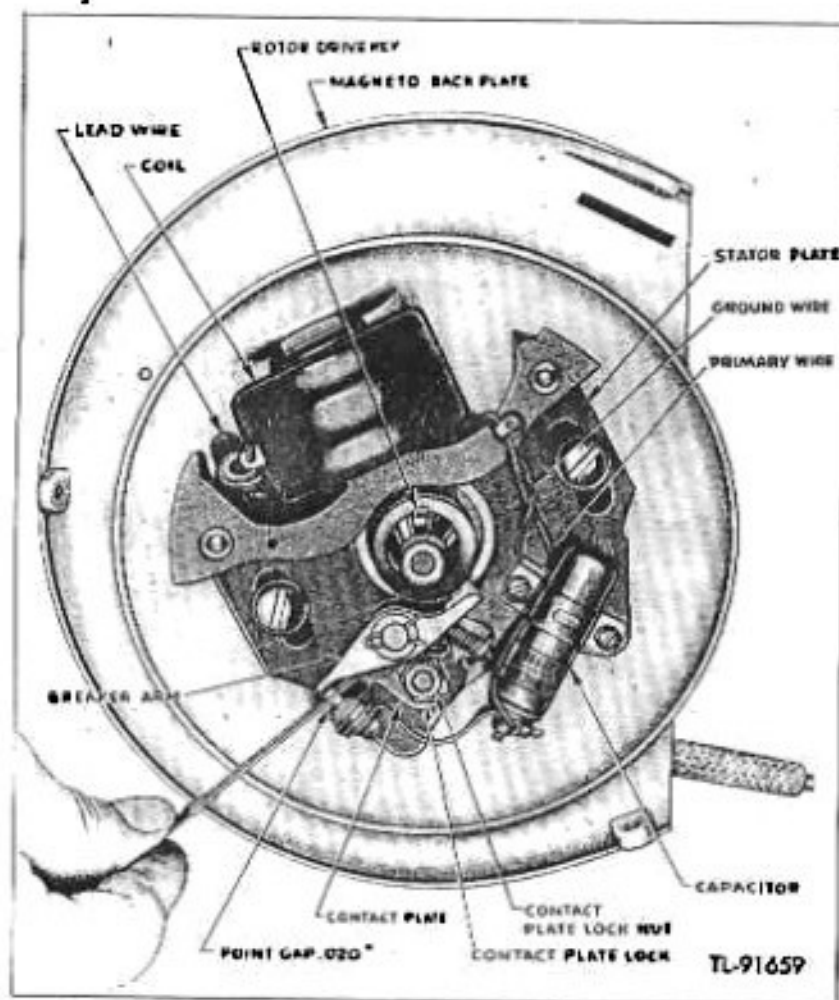
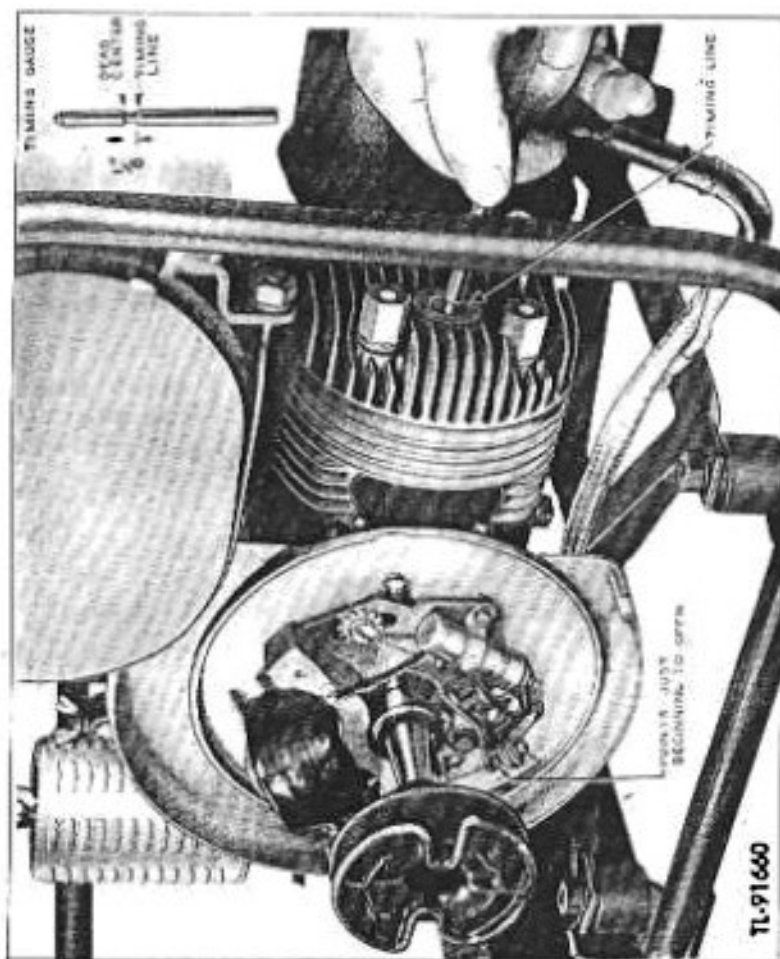

Fig. 10—Magneto Point Adjustment
Fig. 11—Magneto Timing
(g) Check opening (fig. 10) with feeler gauge (457). Correct opening is .020 inch.
(4) If the points need resetting, bend down the contact plate lock (fig. 10), loosen the lock nut (475) which holds the breaker plate (476) in position and move the plate up or down as necessary to obtain the proper point opening. After setting is accomplished, be sure to tighten the lock nut (475) and bend the ear of the plate lock against the flat of the lock nut so it cannot loosen up.
(5) The breaker plate setting should be made only in the manner prescribed. At no time should the fixed contact on the plate (476) be loosened or the breaker arm (465) bent to provide adjustment.
(6) The moving contact is integral with the breaker arm. In replacing the breaker arm (465), make certain the breaker arm bushing is in place. If either one of the contact points needs replacing, change both of them at the same time to insure satisfactory operation.
(7) The breaker arm bearing is packed with a cam lubricant at the time of assembly and should not require additional lubrication. A small amount of this lubricant is also packed on the breaker arm cam wiper (481) and wipes off on the cam surface, providing permanent lubrication between these rubbing surfaces.
(8) Uneven or pitted points may be restored to a true even condition by using the point cleaner furnished with the equipment. Be sure to remove all dust particles after servicing the points. If points are in need of extensive dressing, replace them.
c. To time magneto. If, for any reason, the magneto assembly is removed from the engine, follow these directions for proper timing (see fig. 11):
(1) Check the point opening as outlined in subparagraph b (3).
(2) Remove the cylinder head baffle (414), then the spark plug shield (400) and the spark plug.
(3) Turn the crankshaft (428) in direction of engine rotation (to the right) until the piston reaches top dead center.
(4) Insert the small narrow rod furnished with equipment through the spark plug hole in the cylinder head (415) until it touches top of piston.
(5) The lower edge of recess on the rod should then be flush with the top of spark plug hole.
(6) Then withdraw the rod.